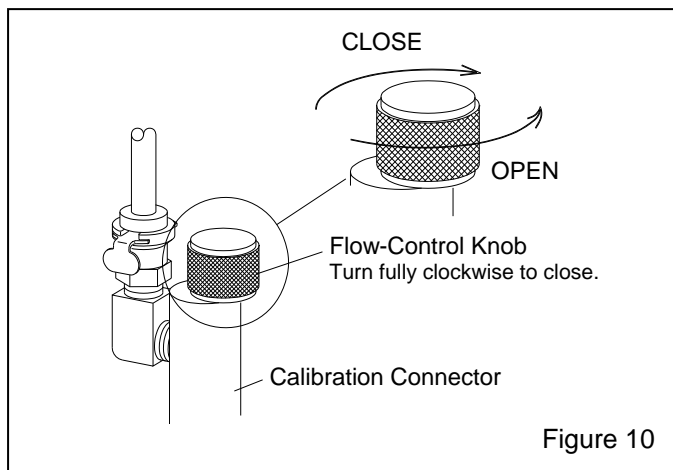

Figure 10
4.5.1 Open the instrument case cover to access the interior faceplate. Take care not to introduce blast environment contaminants into the instrument when the case is open. Refer to Figure 10 for faceplate-calibration testing and calibration callouts.
4.6.4 Refer to Figure 10 and adjust the flow-control knob until the flow meter ball remains between 0.5 and 0.8 SCFH, normally a little nearer to 0.8. The valve is extremely sensitive. Minor adjustments may be required to correctly position the ball.